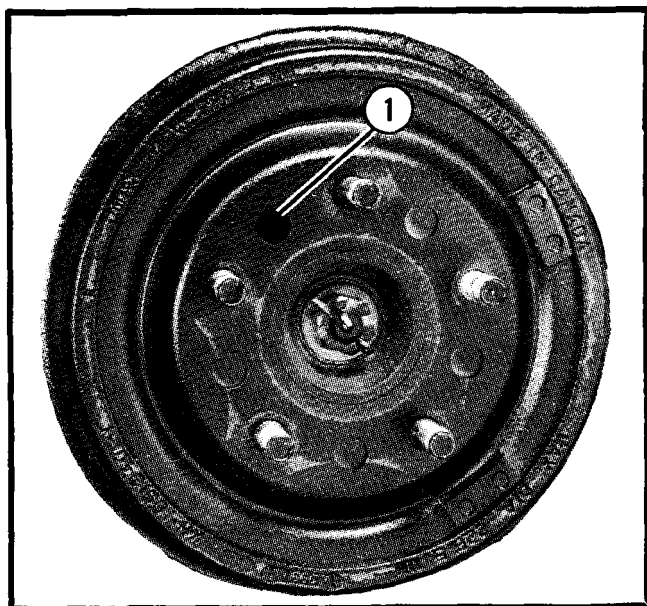

Figure 11.
3. Turn drum until hole is in approximate position shown. See Figure 11.